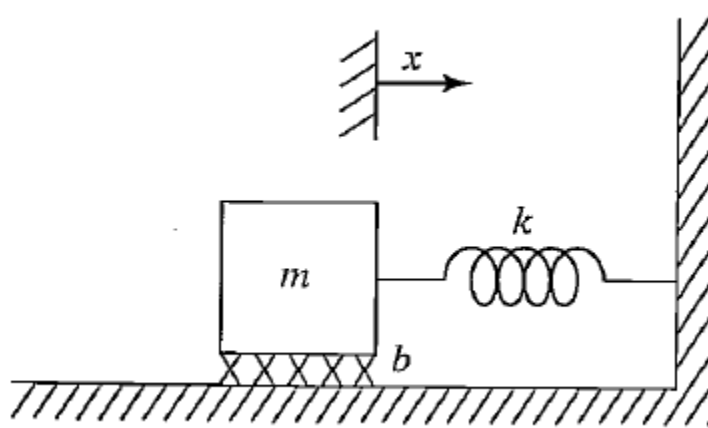

Figure Q5A.
- 5A.** Determine the motion of the system in Figure.Q5A. if parameter values are in $m=1$, $b=2$, and $k=3$ and the block (initially at rest) is released from the position $x=-1$. **04**
- 5B.** If the parameters of the system in Fig.Q5A. are in $m=2$, $b=.4$, and $k=.8$, find gains k_p , k_v for a position-regulation control law that results in the system's being critically damped with a closed-loop stiffness of 12.0. **04**